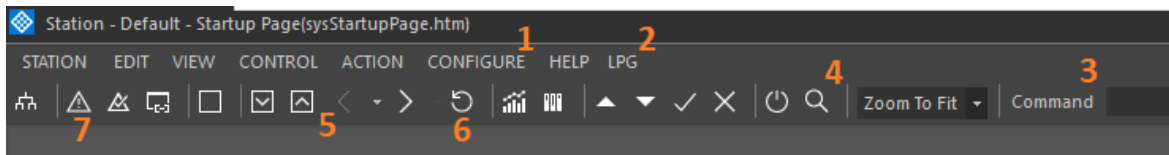

Figure 2 Experion HS Toolbar (Source: Experion HS)
- When you open Experion HS, you must enter your user name and password with access permission to the Experion system in order to control the process. The user manager can configure the permissions and users of the system in the CONFIGURE window (Indicator 1 in **Figure 2**).
- From the tabs on the top bar, the LPG tab (Indicator 2 in **Figure 2**) must be selected to access the main process control display. A specific display can also be accessed by typing the file name in the Command box (Indicator 3 in **Figure 2**) and pressing enter.
- If you wish to access the detail screen of a point, you can double click on the figure of the display representing the point, or type the name of the point in the Command box and click on the search loupe (Indicator 4 in **Figure 2**).
- To access the alarm control screen, press the triangle (Indicator 7 in **Figure 2**)
- The navigation arrows (Indicator 5 in Figure 3.79) can be used to return to a previous, posterior, upper or lower screen. To refresh a display, press the circle with arrow (Indicator 6 in Figure 2).